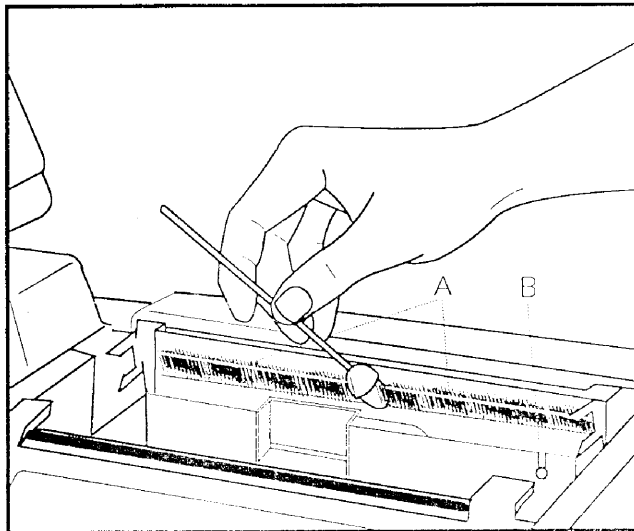

Figure 4-2. Cleaning the Digital Array Printhead.
1. From the front of the cardiograph, unlatch and open the paper door. The printhead is to the right under the paper blade, behind the ESD brush (see Figure 4-2).
1. From the front of the cardiograph, unlatch and open the paper door. The paper sensor lens is to the right under the printhead (see Figure 4-2).